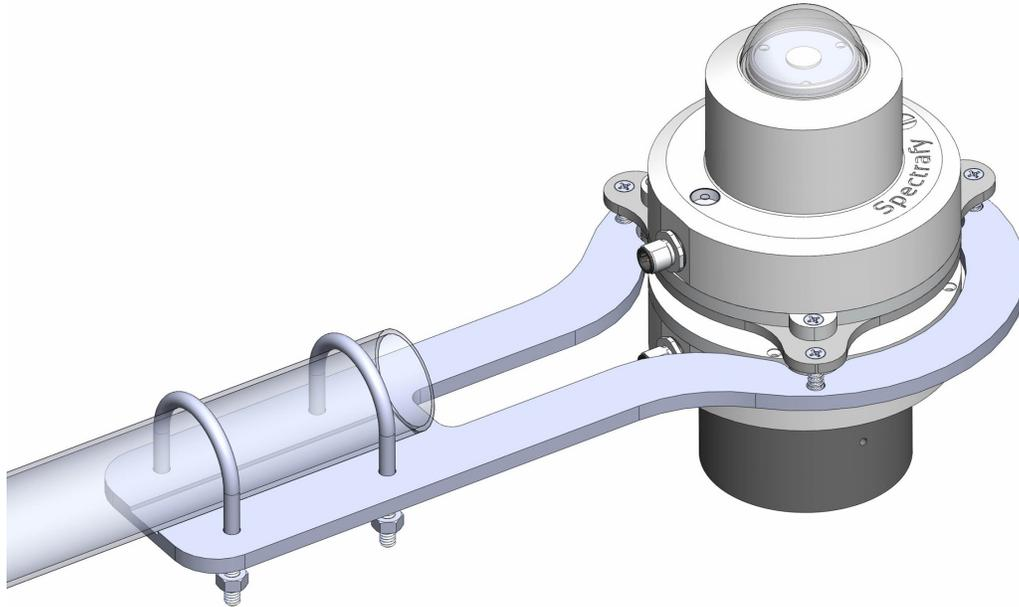

Figure 5: The SolarSIM-ALB fastened to a horizontal mounting pipe using two U-bolts. Note the location of bubble level on the up-facing SolarSIM-G.
4. Attach the two U-bolts to the mounting plate where U-bolt nuts are on the opposite side of the plate to the rectangular cut-out, as shown in Figure 5. Leave the nuts untightened sufficiently so that the U-bolts can easily slide over the mounting pipe (user provided). Note the mounting pipe diameter should be no larger than 1.75”.
5. Mount the SolarSIM-ALB assembly to the mounting pipe so that the mounting plate sits under the pipe. Ensure the end of the pipe aligns with the end of the rectangular cut out on the mounting plate, as shown in Figure 5. Tighten the U-bolt nuts, while ensuring that the mounting plate is roughly level.